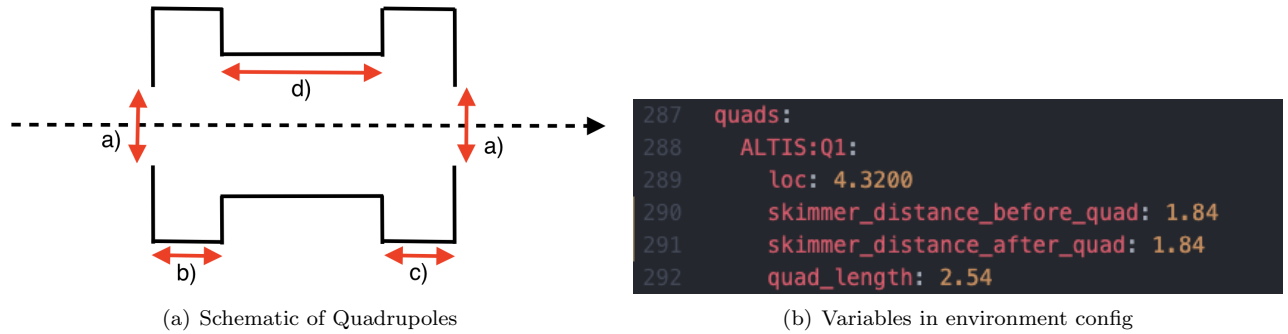

Figure 16: Implementation of Quadrupoles into the config file.
The implementation of quadrupoles is shown in Figure 16. To protect the quadrupole electrodes from the beam, skimmer plates are installed before and after each quadrupole as shown in Figure 16(a).
- the variable **a**) in Figure 16 denotes the skimmer diameter. This information is saved in the acc database and automatically pulled.